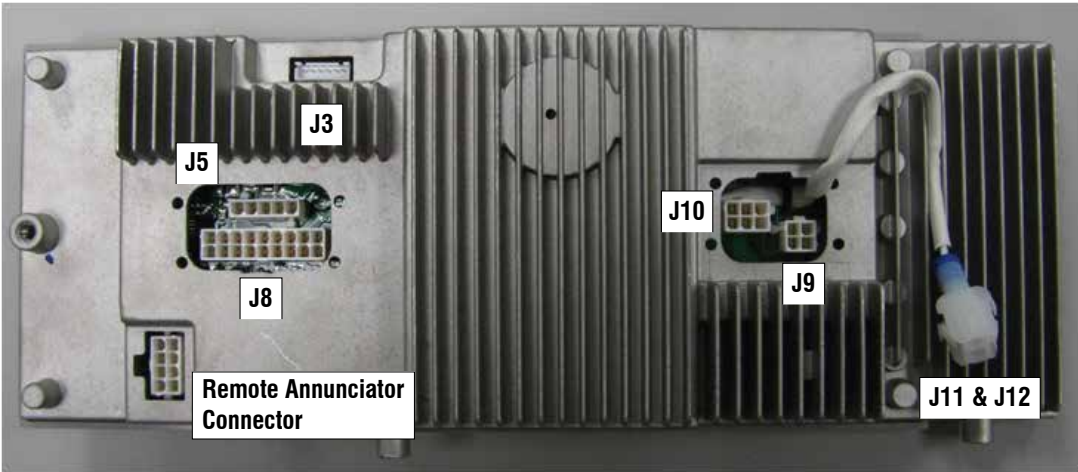

Figure 282. Nexus Air-cooled Panel Part Number 0H6680 (D)
Figure 282 – Nexus Air-cooled Panel part number 0H6680 (D) has 4 Molex/ETC style connectors on the back (J5, J8, J9 & J10), one actuator connector (J3), the battery charger connector (J11 & J12), and a connector socket for the remote wireless annunciator (optional accessory).